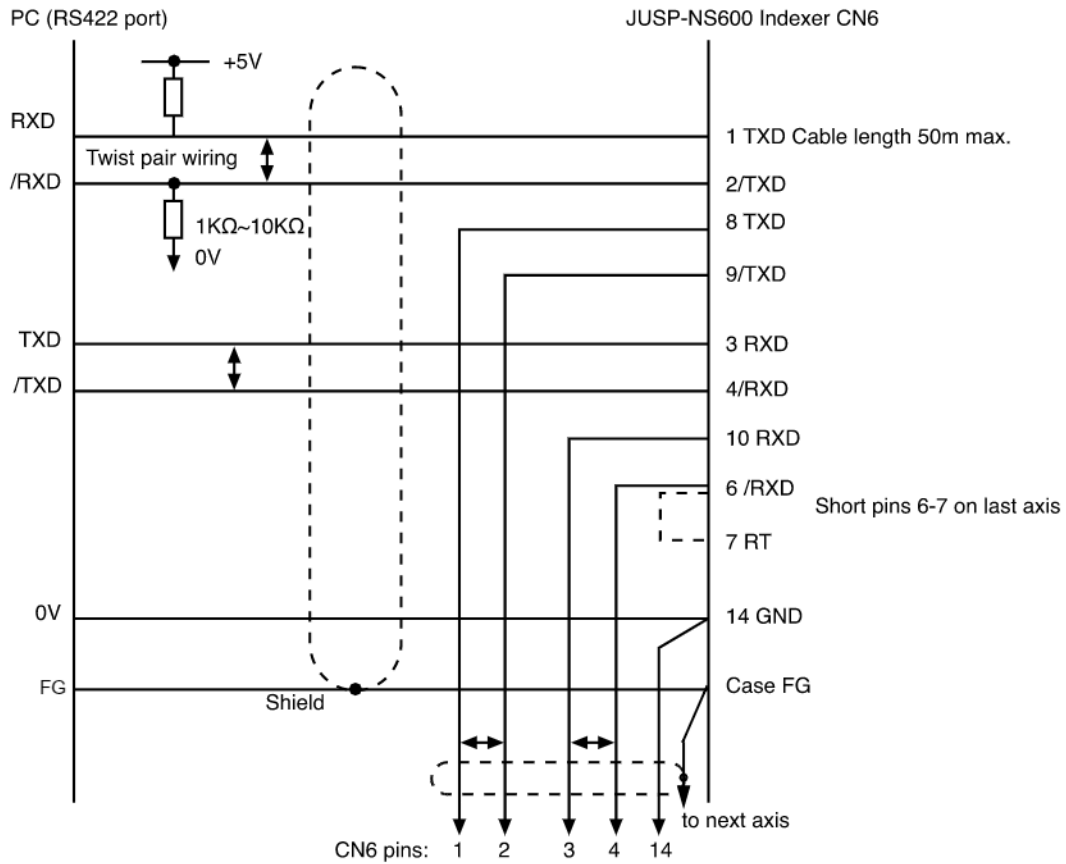

Figure 3.5 RS422 Multi-Axis Communication (CN6)
6. If noise persists in the case of RS422 or RS485, it may be necessary to add pull-up/pull-down resistors as shown in Fig. 3.5 and 3.6.